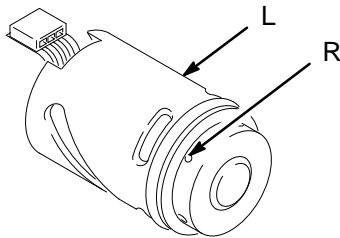

Fig. 2 01158A
2. Visually inspect the turbine alternator (L). See Fig. 2. If any of the holes (R) are plugged, unplug them. If excess wear appears on the alternator bearings or shaft, replace or rebuild the alternator. See **Accessories** to order a Turbine Alternator Repair Kit.